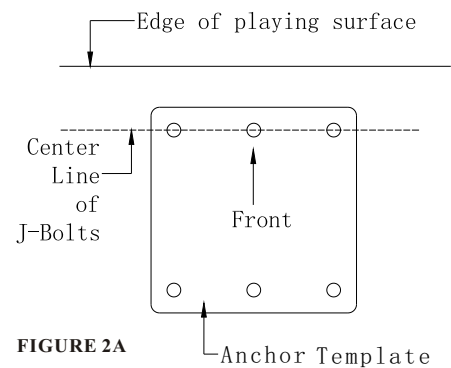

FIGURE 2A
- Position the J-Bolt Template (O) over the hole so that it is centered, with the **center line of the** J-Bolt parallel with the edge of the playing surface. See Figure 2A)
- Push the J-Bolts (N) into the concrete until the J-Bolt Template is resting flat against the surface of the concrete.